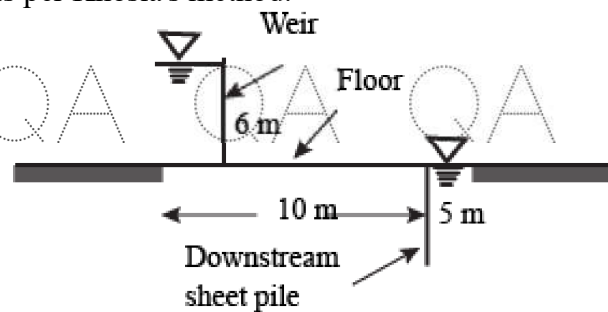

Figure 4
- b) A weir on a permeable foundation with downstream sheet pile is shown in the figure 4. Find the exit gradient as per Khosla's method. [5+5]